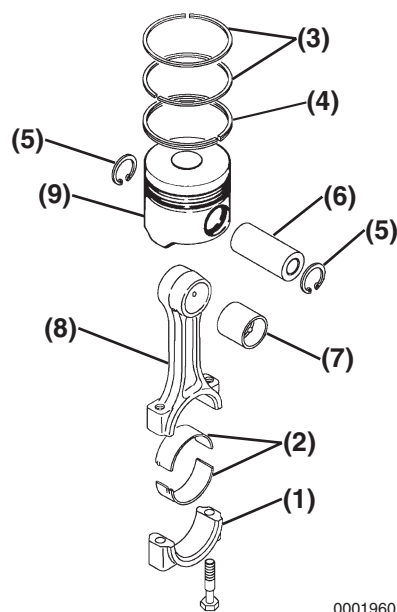

Figure 6-127
- If removed, install a new wrist pin bushing (**Figure 6-127, (7)**) using a press and the appropriate service tool. Be sure to align the oil holes.
- Reinstall one circlip (**Figure 6-127, (5)**) into the piston. Ensure the circlip is securely seated in the groove.